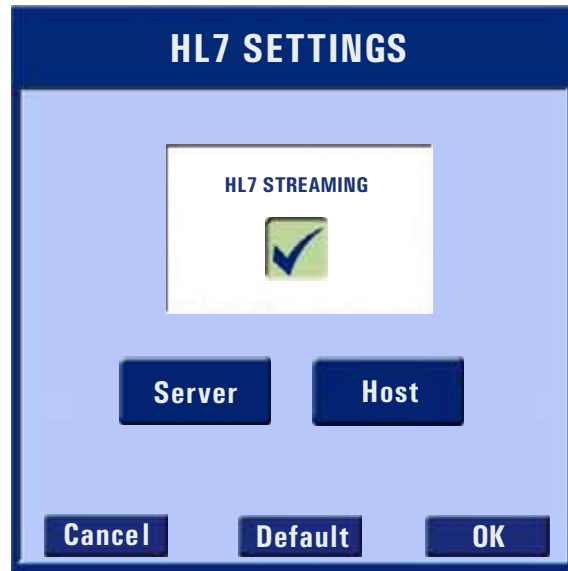

Figure 5-31 PRU HL7 Settings Screen
3. Enter the IP Address configuration using the numeric keypad. The numeric value in each field cannot exceed 255. The value in the first field must be between 1 and 223 and cannot use 127. The value in the fourth field must be between 1 and 254. Press the **Tab** button to switch between fields as needed. Press **OK** to return to the HL7 Settings screen (refer to Figure 5-31 on page 5-30).